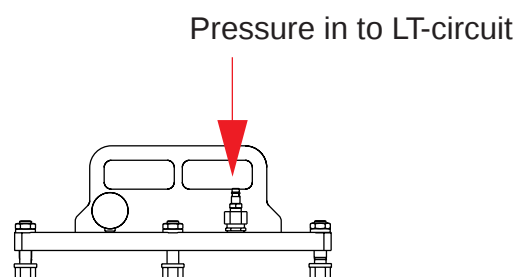

Fig 15-10
- 1** Mount the testing tool, see Fig 15-10 onto the cooler and fill it up with water by the hand pump.